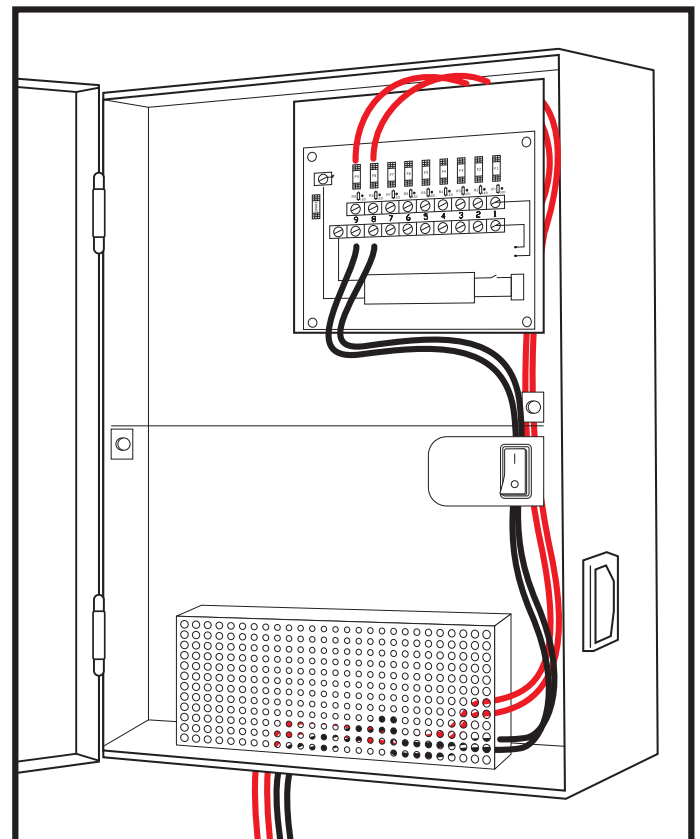

Fig. 2
1. After the unit is mounted to the wall, run your power cables from each device through the wiring holes. (see Fig. 2)
1. Once the power cables have been run, connect the positive lead from the device to the +Volt output terminal for each device. (see Fig. 2)
2. Connect the negative lead from the device to the -Volt output terminal for each device. (see Fig. 2)